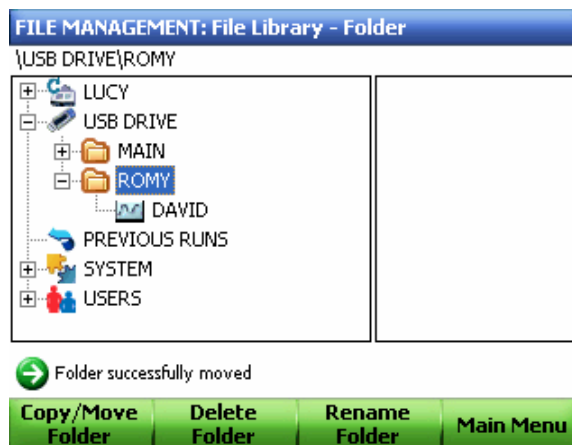

Figure 85. The ROMY folder is moved into the USB key.
- Select **Yes** to confirm that the folder was successfully moved (Figure 85).